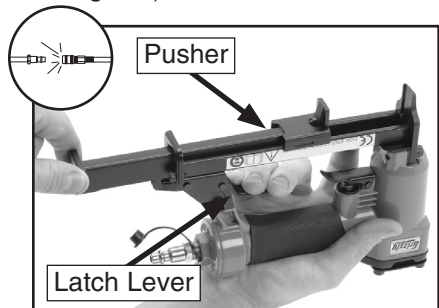

Figure 5. Opening stapler magazine.
2. Depress the magazine latch lever and slide the magazine pusher back (see **Figure 5**).